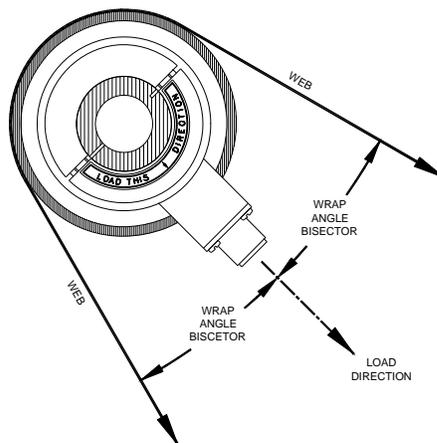

Figure 13 - Proper Orientation of the Cartridge Transducer
<p>Stud (S)</p>	<ol style="list-style-type: none"> Before tightening the mounting bolt, rotate the transducer body until the force direction (indicated by the arrow on the label) is aligned with the vector of the web force. The vector of the web force is the bisector of the wrap angle. Refer to Figure 13. <hr/> <ul style="list-style-type: none">  Rolls often have an uninterrupted shaft that extends to form the journals. Though the roll may be described as having a “dead shaft”, neither journal end can rotate independently of the other. Attempting to rotate one transducer, while the other end of the roll is clamped can result in damage to the transducer.  Make sure that the bolt is not too long so that it bottoms inside the transducer and causes damage.